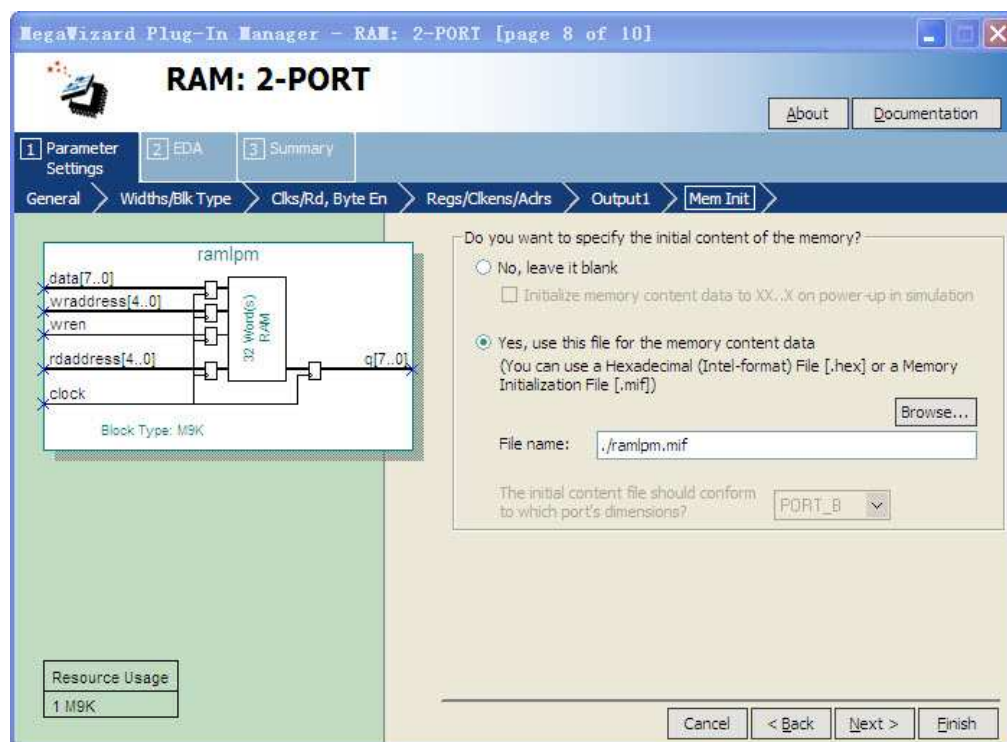

Figure 5. Specifying a memory initialization file (MIF).
1. Create a new Quartus II project for your circuit. To generate the desired memory module open the Mega-Wizard Plug-in Manager and select again the RAM:2-PORT LPM in the storage category. On Page 1 of the Wizard choose the setting With one read port and one write port (simple dual-port mode) in the category called How will you be using the dual port ram?. Advance through Pages 2 to 5 and make the same choices as in Part II. On Page 6 choose the setting I don't care in the category Mixed Port Read-During-Write for Single Input Clock RAM. This setting specifies that it does not matter whether the memory outputs the new data being written, or the old data previously stored, in the case that the write and read addresses are the same. Page 8 of the Wizard is displayed in Figure 5. It makes use of a feature that allows the memory module to be loaded with initial data when the circuit is programmed into the FPGA chip. As shown in the figure, choose the setting Yes, use this file for the memory content data, and specify the filename ram1pm.mif. To learn about the format of a memory initialization file (MIF), see the Quartus II Help. You will need to create this file and specify some data values to be stored in the memory. Finish the Wizard and then examine the generated memory module in the file ram1pm.vhd.